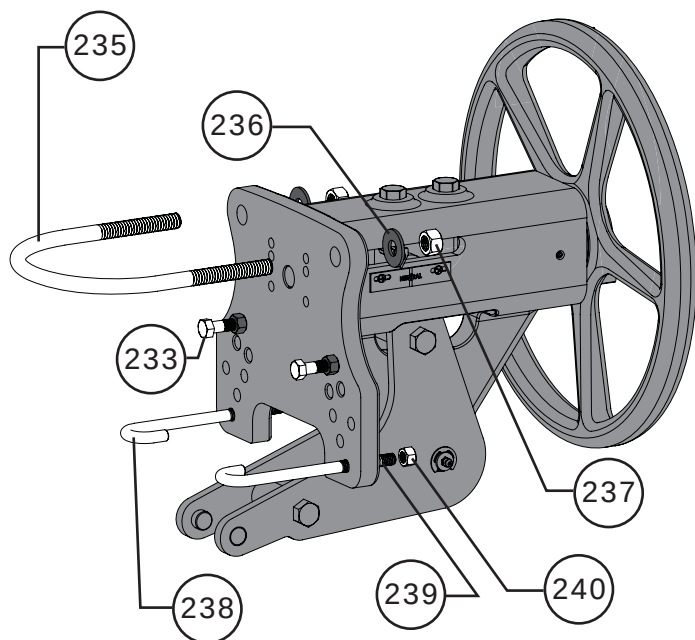

Figure 39 Side-Mounted Handweel Mounting Fittings
- 4 Remove any mounting fittings that may be attached to the side-mounted handwheel body during shipping. These fittings will include the u-bolt (Key 235), mounting hooks (Key 238), and jack screws (Key 233). Refer to Figure 39. **NOTE:** Dowel pins (Key 232) will be shipped stored in a bag along with other fittings.